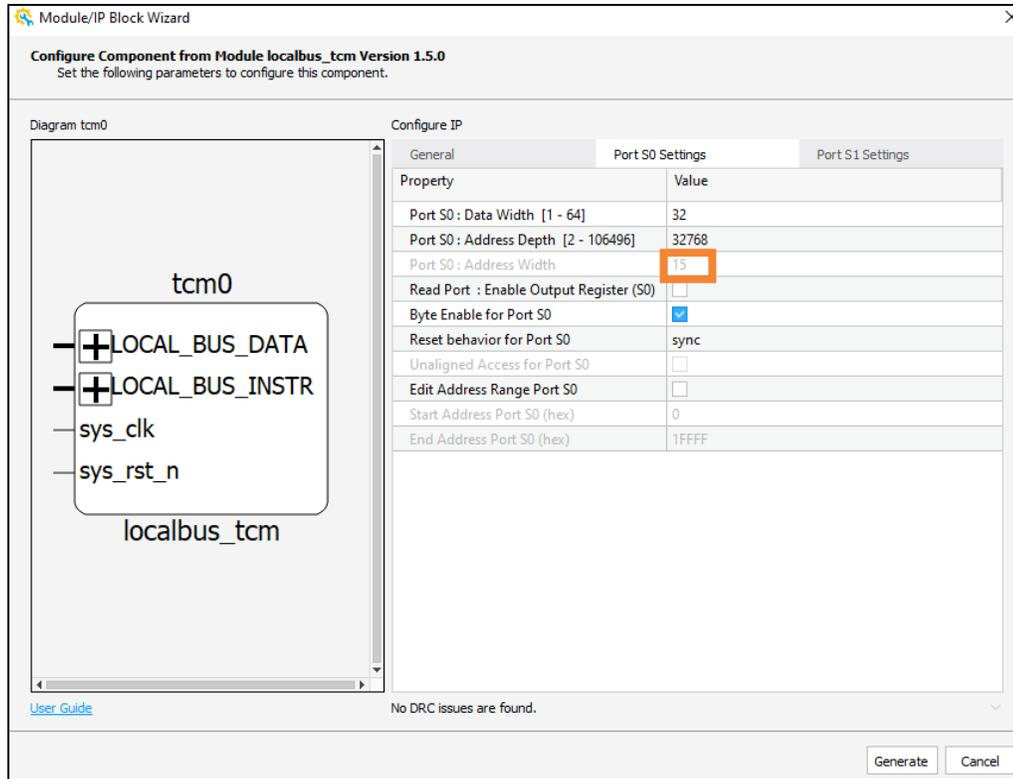
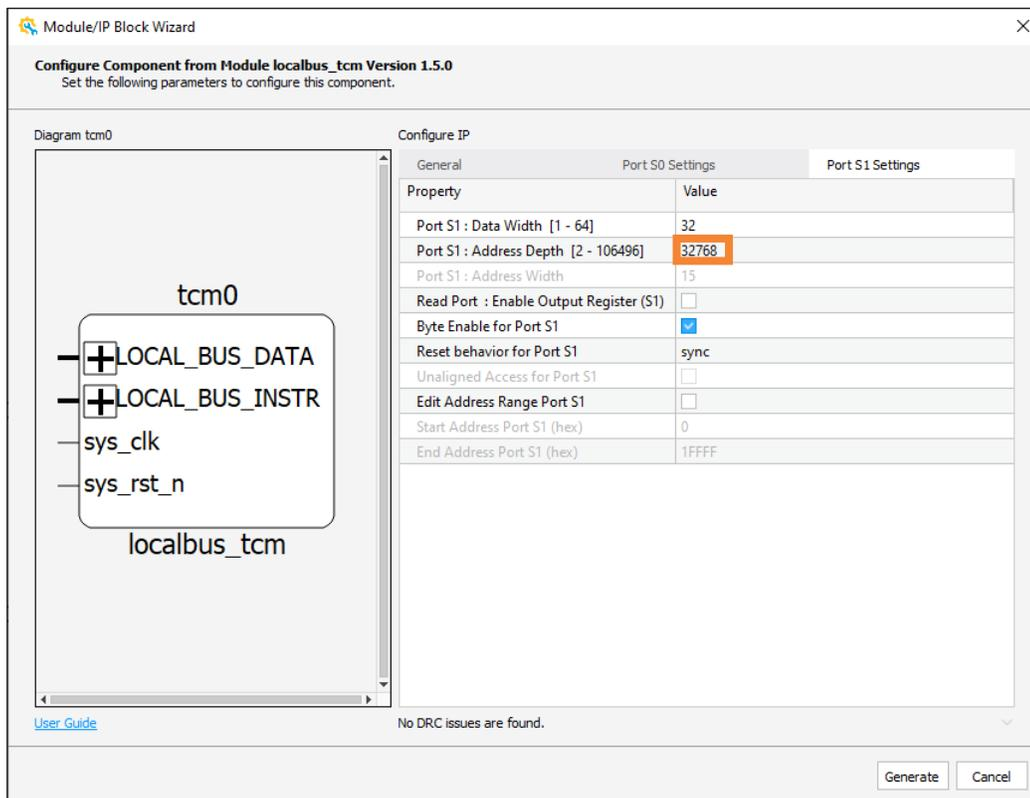

Figure 6.1. tcm0_inst Port S0 Address Depth Settings 1
Figure 6.2. tcm0_inst Port S1 Address Depth Settings 1
2. Lattice Propel Builder automatically opens. In Lattice Propel Builder, double-click `tcm0_inst` in the **Schematic** view, set a larger value for Address Depth both in Port S0 Settings (Figure 6.1) and Port S1 Settings (Figure 6.2). Click **Generate**.
2. Lattice Propel Builder automatically opens. In Lattice Propel Builder, double-click `tcm0_inst` in the **Schematic** view and set a larger value for Address Depth both in Port S0 Settings (Figure 6.1) and Port S1 Settings (Figure 6.2). Click **Generate**.